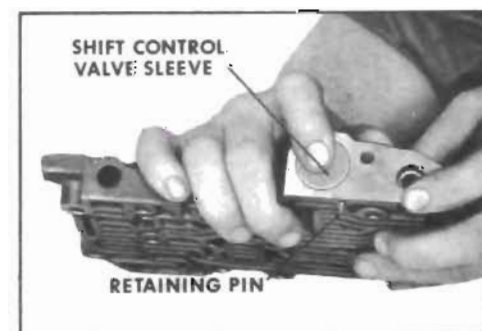

Figure 5-168
2. Depress shift control valve sleeve and remove retaining pin by turning valve body over so pin will fall free. Remove shift control valve, spring, washer, and shift valve. See Figure 5-168.